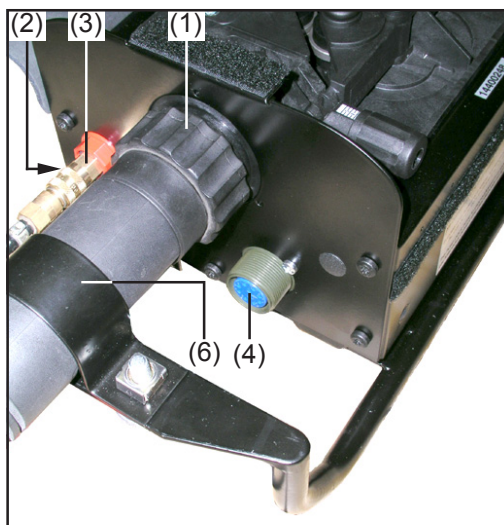

Fig.8 VR 143-2Z Yard: Connecting up the (JobMaster, Up/Down) welding torch
- 5b. Up/Down or JobMaster welding torch (Fig.8): Plug the LocalNet plug of the welding torch onto the LocalNet connection jack (4)
6. Fix the interconnecting hosepack in place with a hose clamp (6)